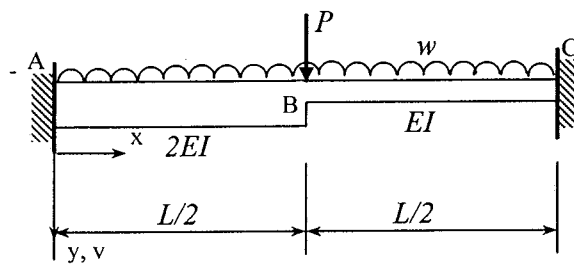

Figure 6
- (b) The stepped beam with both end fixed as shown in Fig.6 is to be analysed using piece-wise Rayleigh-Ritz method where the beam will be divided artificially into two portions <A-B> and <B-C>. The beam is subjected to a uniformly distributed load  $w$  and a point load  $P$  at B.